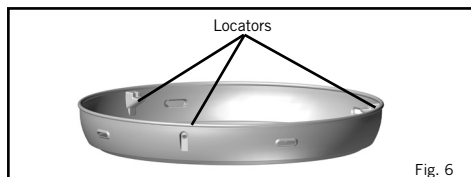

Fig. 6
- The BBQ Grid locates on three die-cast locators in the fat pan (Fig. 6).
- The Chef Pan locates on three die-cast locators in the fat pan (Fig. 6).
- The Grill 2 Braai locates on three die-cast locators in the fat pan (Fig. 6).